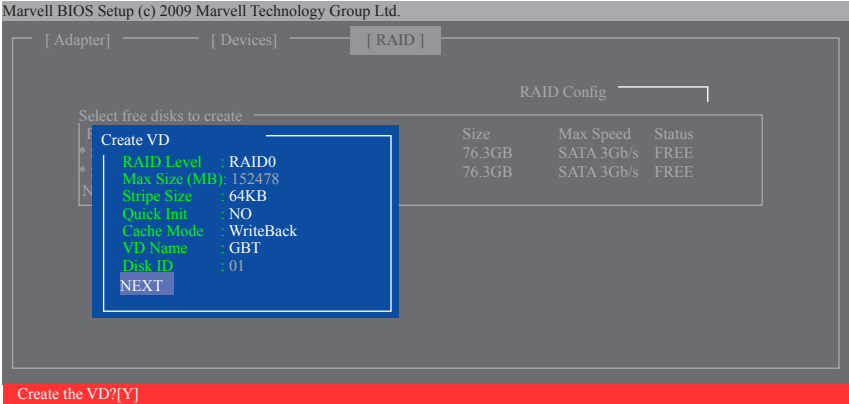

Figure 9
6. **NEXT:** After completing the settings above, move to **NEXT** and press <Enter> to begin creating the array. When prompted to confirm, press <Y> to confirm or <N> to cancel (Figure 9).